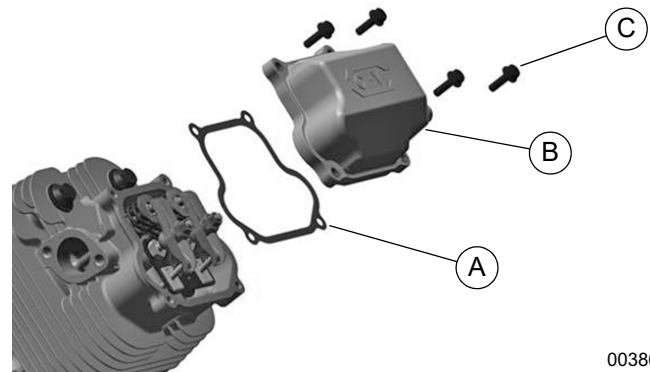

Figure 14-47. Install Rocker Cover
See Figure 14-47. Install rocker cover gasket (A), rocker cover assembly (B), and four fasteners (C). Tighten fasteners to 6.6 ft-lbs (9.0 Nm).